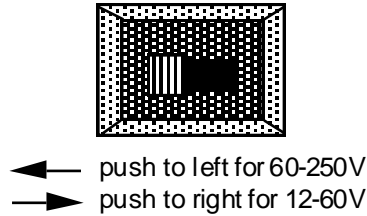

Figure 2-9. Input check switch (S103)
- b. For applications where dual safety valve coil voltage is 12-60 Vac or Vdc: Set switch S103 to the right. The switch is marked 12-60 V. *(This switch is located at the upper right-hand portion of the board. See Figure 2-4 for location of switch. See Figure 2-9 for illustration.)*